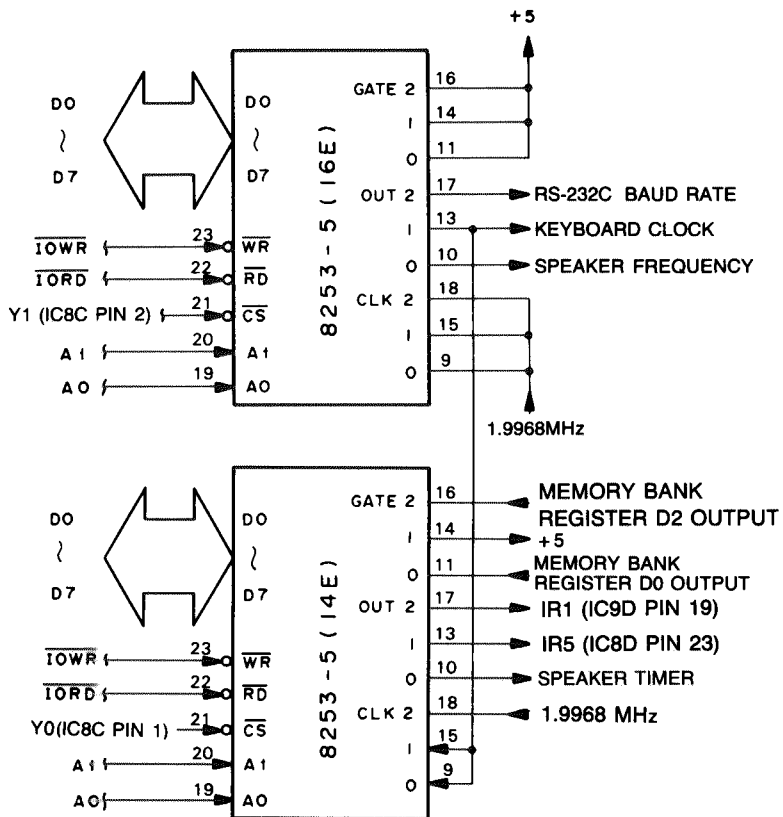

FIGURE 2-48. 8253 PROGRAMMABLE INTERVAL TIMER CIRCUIT
2.3.4.1 8253 Programmable Interval Timer (Figures 2-48 and 2-49)